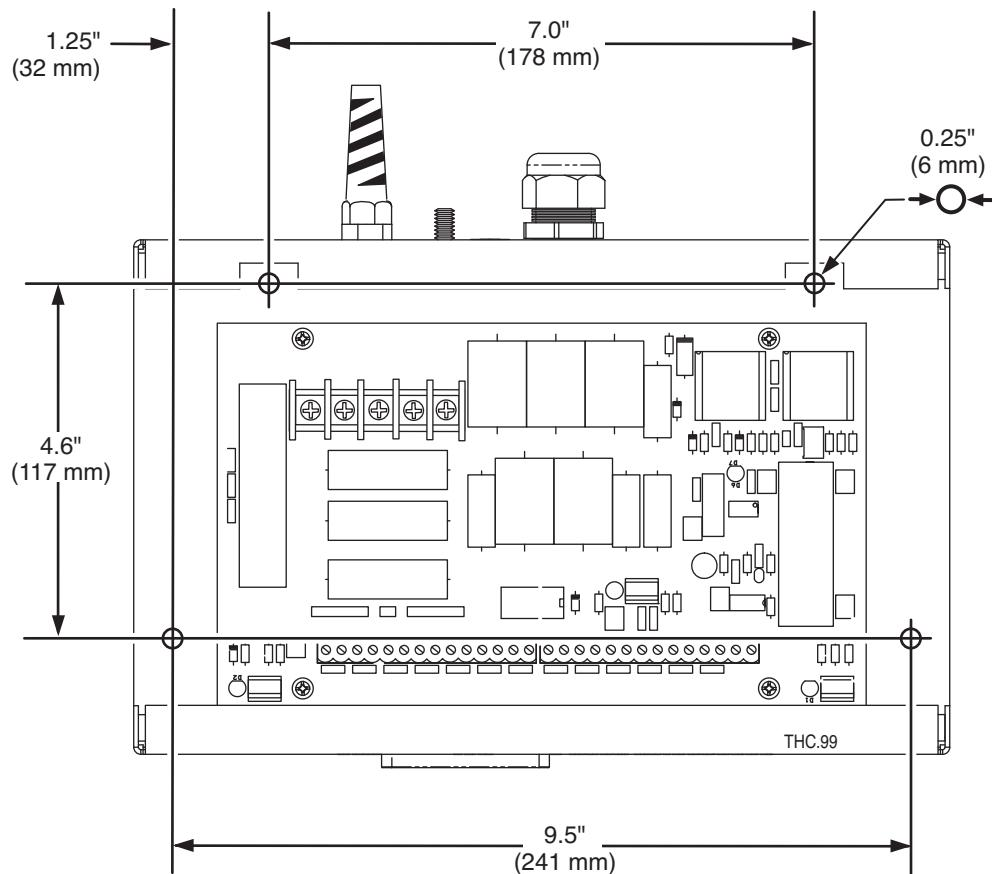

Figure 3-2 Plasma interface assembly mounting
- Mount the plasma interface assembly close to the plasma power supply for easy connection of control and process signal wires between the units. The unit can be mounted in any position. The mounting holes require #8 (4 mm) fasteners. See Figure 3-2.